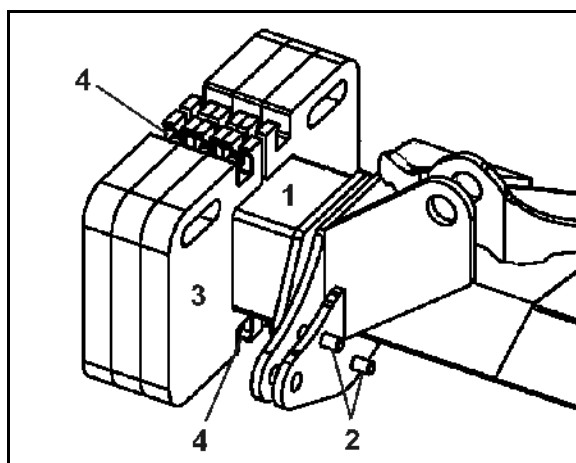

Fig. 19
1. Mount the holder tube (Fig. 19/1) with 4 screws (Fig. 19/2) on the outside of the boom.
2. Screw two additional weights (Fig. 19/3) onto each holder tube (Fig. 19/4) and secure.